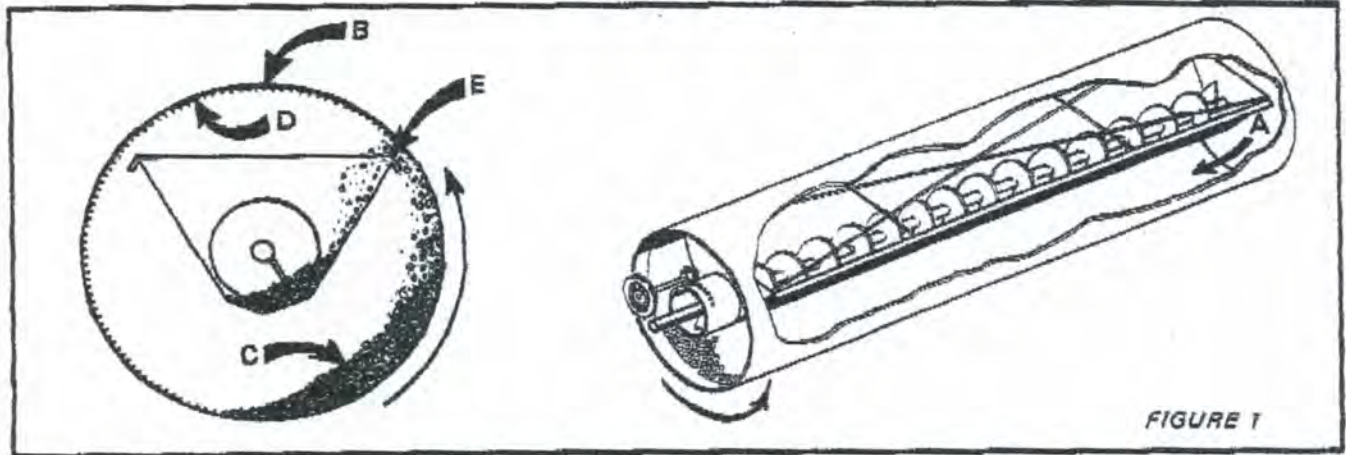

FIGURE 1
Product is choke-fed into feed hopper and is discharged into the rear of the cylinder at (A, Figure 1). The counterclockwise rotating action and the tapered construction of cylinder (B) cause the movement of product along the inside bottom of cylinder toward the front (discharge) end.